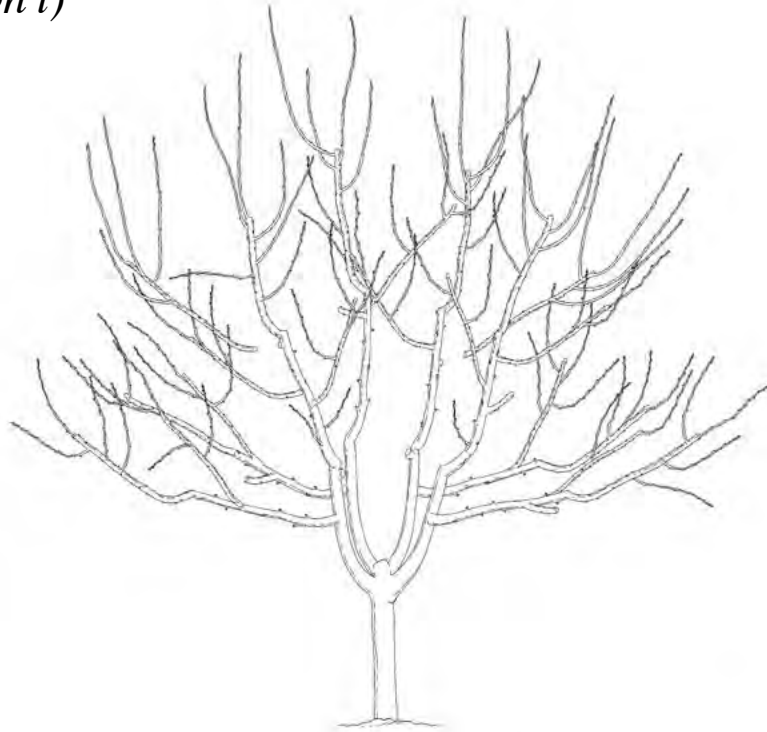

Figure 36
- Remove or cut back large branches that extend beyond the lower branches in order to maintain light channels and fruiting wood throughout the tree (Figure 36).